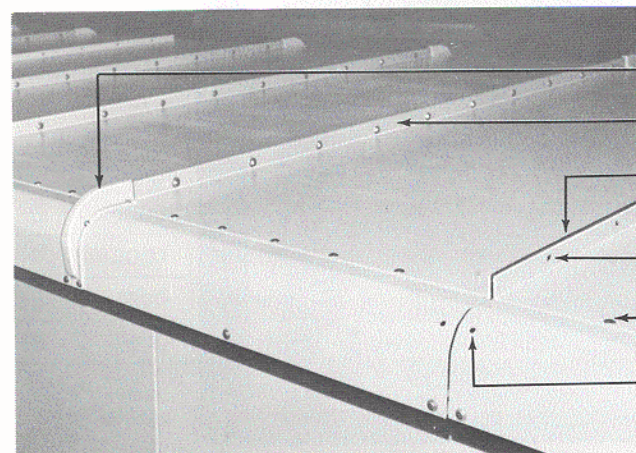

FIGURE 45
8. If aisle is shipped in two sections join walls and roof together as shown in Figure 45 and apply caps over roof seams. Use *gasketing* between roof seams. Use caulking under rounded end caps.